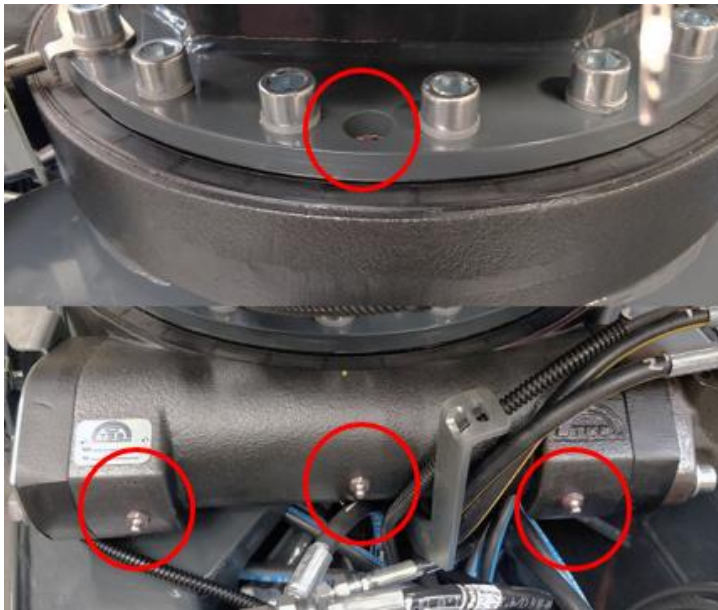

Figure 15: Slewing ring greasing
The slewing ring of the access platform must be greased monthly, according to the maintenance schedule. It is important to notice that the **slewing ring has four (4) separate greasing points** (Figure 15) which all must be greased individually. There are 3 grease nipples on the backside of the slewing ring are connected to the gear and its bearings. One (1) grease nipple on top of the slewing ring (a hole through the pedestal) is connected to the ring's ball bearings. When applying grease to this grease nipple, it is important to apply it around the bearing: after applying grease, turn the slewing ring approximately 20 degrees and apply grease again. Repeat until the ring has gone around a full circle (360 degrees).